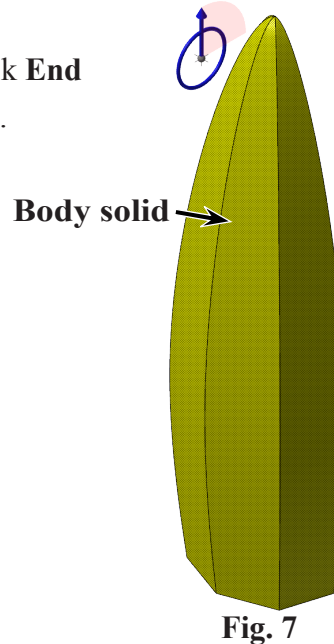

Fig. 7
Step 3. Click the **solid body** to select it and click **End Selection**  (ENTER), Fig 7.